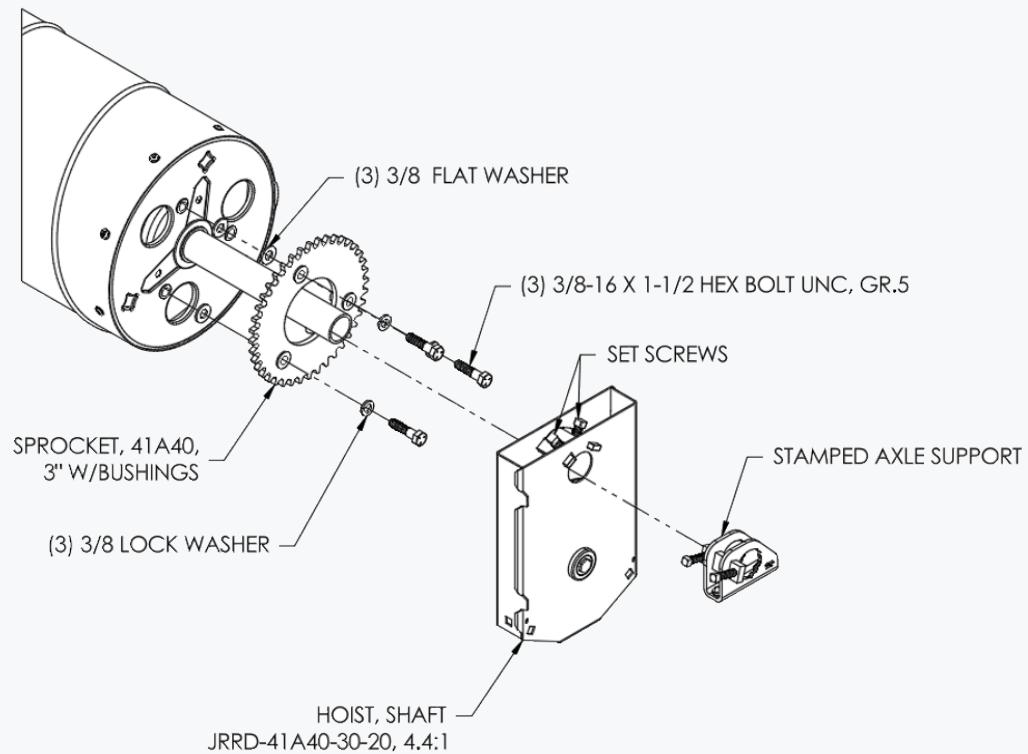

figure 9: Chain Hoist 4.4:1
- ◆ Attach Sprocket to drum using (3) 3/8" flat washers, (3) 3/8" lock washers, and (3) 3/8-16 x 1-1/2" hex bolts as shown in Figure 9.